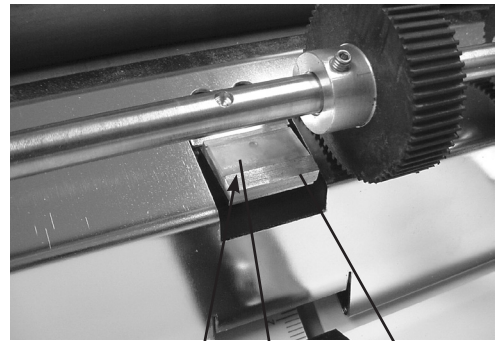

Fig. 19
4. Remove three screws holding the component access panel in position (Fig 19).
4. Remove the singulator mount assembly (Fig. 19)
5. Peel off the pad (Fig. 19).
6. Glue a new pad on the mount using an instant glue. Note: Make sure there is no gap between the pad and the front of the singulator mount (Fig. 19)